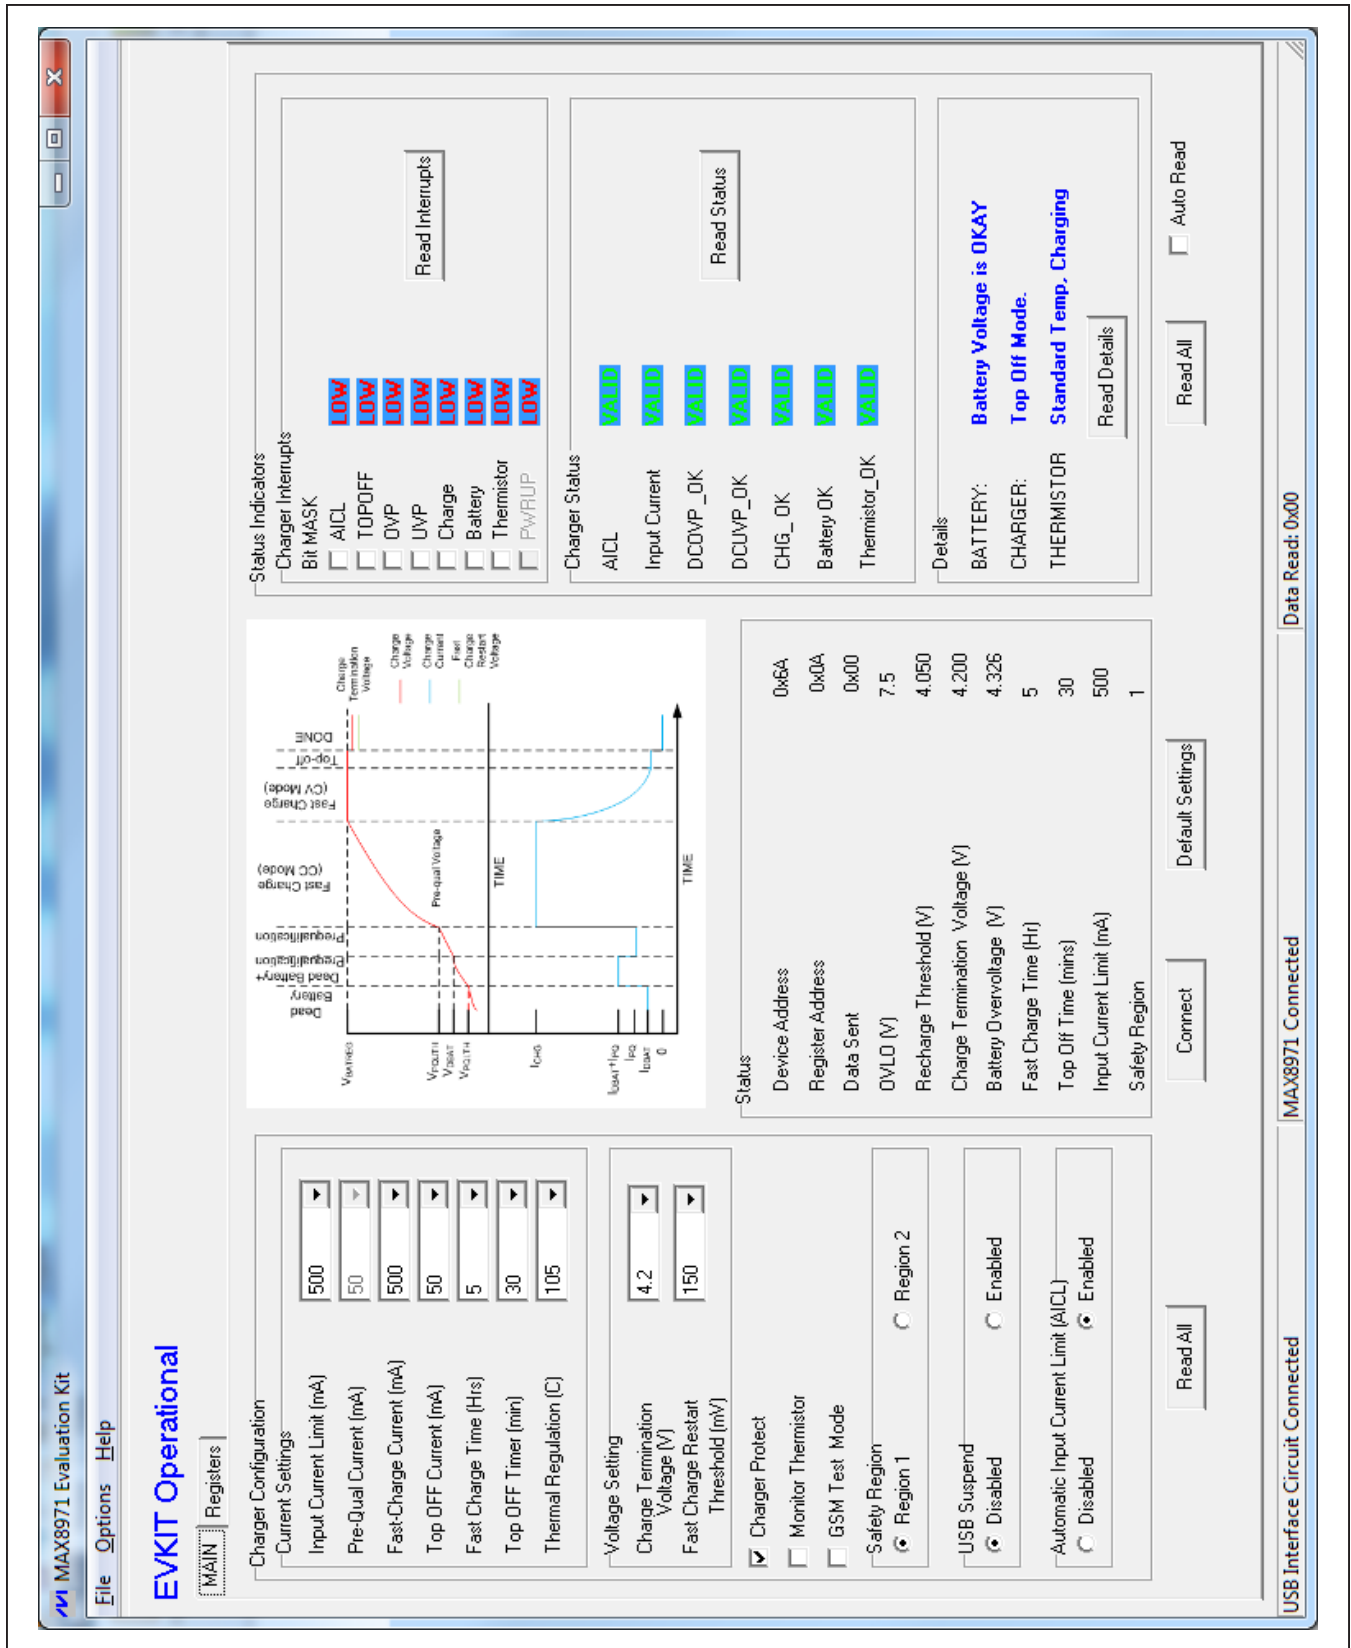

Figure 1. MAX8971 Evaluation Kit Software Main Window (MAIN Tab)
- 11) Start the EV kit software by opening its icon in the **Start | Programs** menu. The EV kit software main window appears, as shown in Figure 1.
The GUI shown in Figure 1 is the main window of the MAX8971 EV kit software that provides a convenient means to control the MAX8971 IC. Use the mouse or press the Tab key to navigate through the GUI controls. The correct SMBus read and write operations are generated to update the IC's internal memory registers when any of these controls are executed.
The EV kit software main window consists of two tabs, **MAIN** (Figure 1) and **Registers** (Figure 2), to provide control of the IC software-configurable features. The **MAIN** tab sheet provides group boxes, checkboxes, and pushbuttons of the charger configuration registers. Status indicators are also available to indicate the read-only registers bit setting. The **Registers** tab sheet provides a map of the device registers, as well as configuration control of each register bit.
hardware connectivity. To exit demo mode, select **Options | Demo Mode** from the menu bar or press the **Connect** button located at the bottom of the MAIN tab (Figure 1). In demo mode, **Demo Mode** is displayed on the panel and all indicators in the **Status Indicators** group boxes display **N/A**.